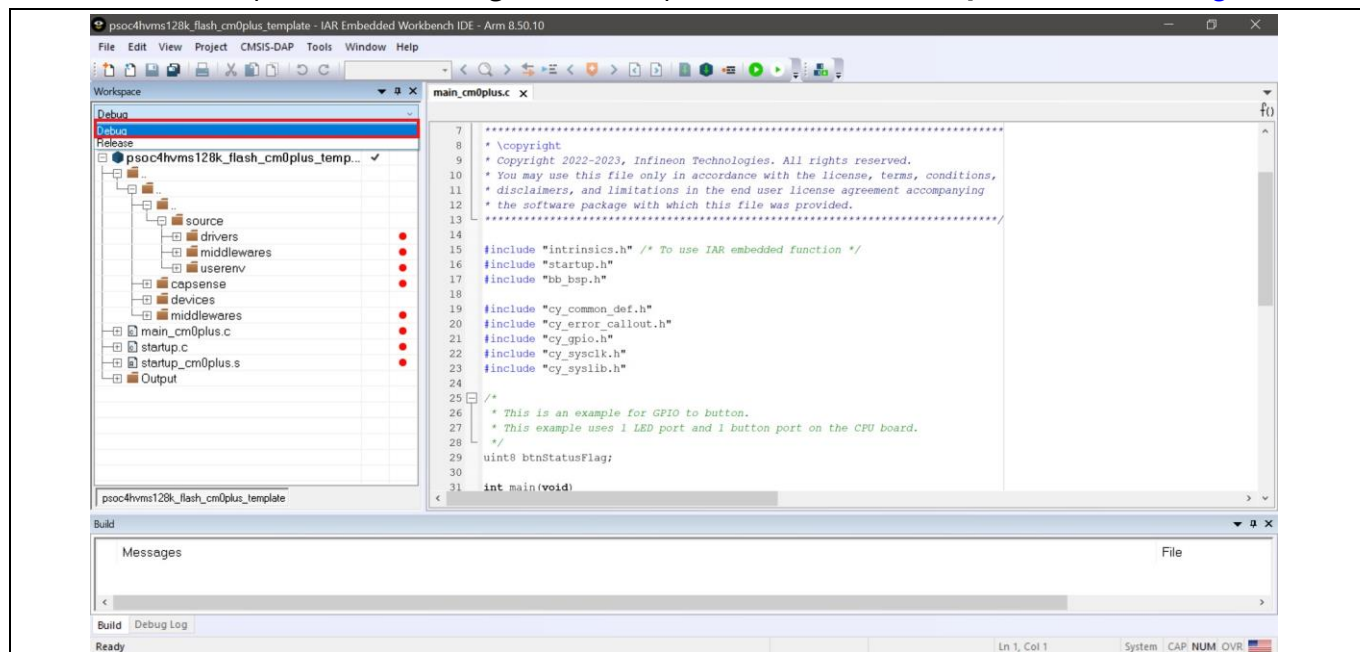

Figure 20 Selecting workspace revision
2. Select the workspace revision **Debug** from the drop-down list under **Workspace**, as shown in Figure 20.